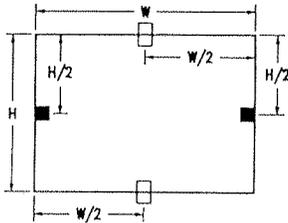

Fig. 3-3-2.
- (1) The same as item 3.3.1. (1)~(7).
- (2) The raster inclination adjustment should have been completed.
- (3) Horizontal AFC adjustment should have been completed.
- (4) Apply marking using the tape, etc. at the positions on the screen as shown in Fig. 3-3-2.